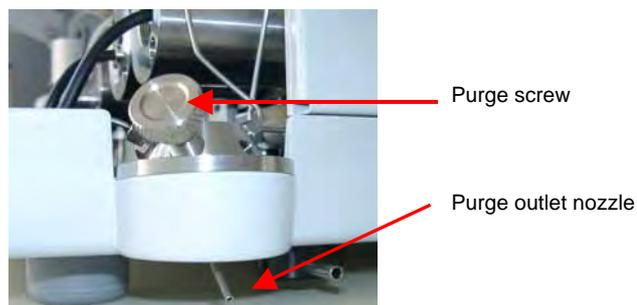

Fig. 26: Purge block for all P680 pump types except P680A DGP-6
**i Please note:** For the P680A DGP-6, the purge screws are located on the equilibration pump head of the respective pump (→ Fig. 27). For all other pump models, the purge screw is located on the purge block (→ Fig. 26).